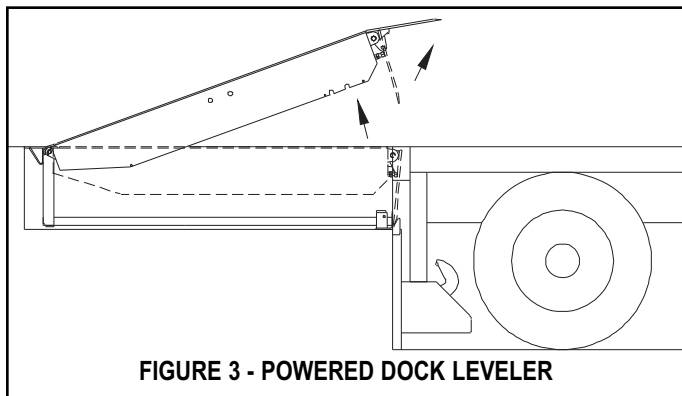

FIGURE 3 - POWERED DOCK LEVELER
1. Activate the leveler by pushing and holding the RAISE button until leveler is fully raised and lip is fully extended. See figure 3.